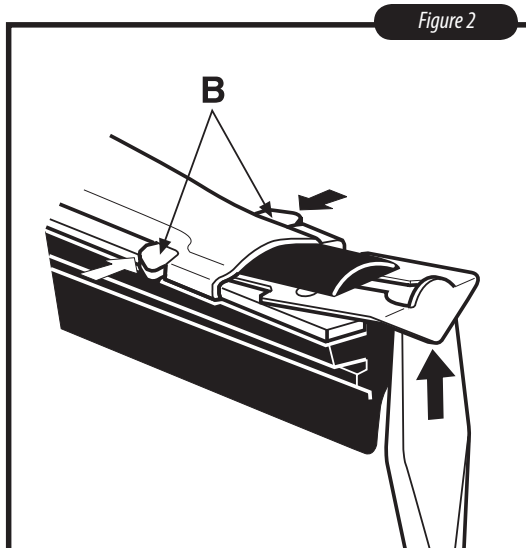
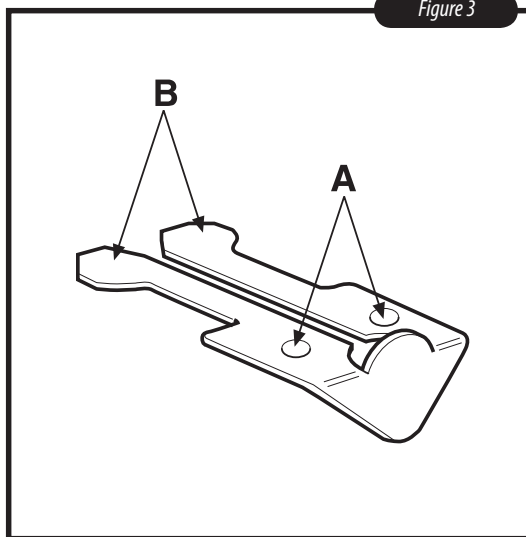

Figure 2
Figure 3
1. Lift end clip with screwdriver as shown in Figure 2. This releases locking indentations (A in Figure 3) and allows end clip retainers (B in Figure 3) to be removed through blade claw.
3. New end clips (Figure 3) are provided with replacement Anco™ refills. To install, remove one clip and slide the refill through all claws until the end clip locks in position.